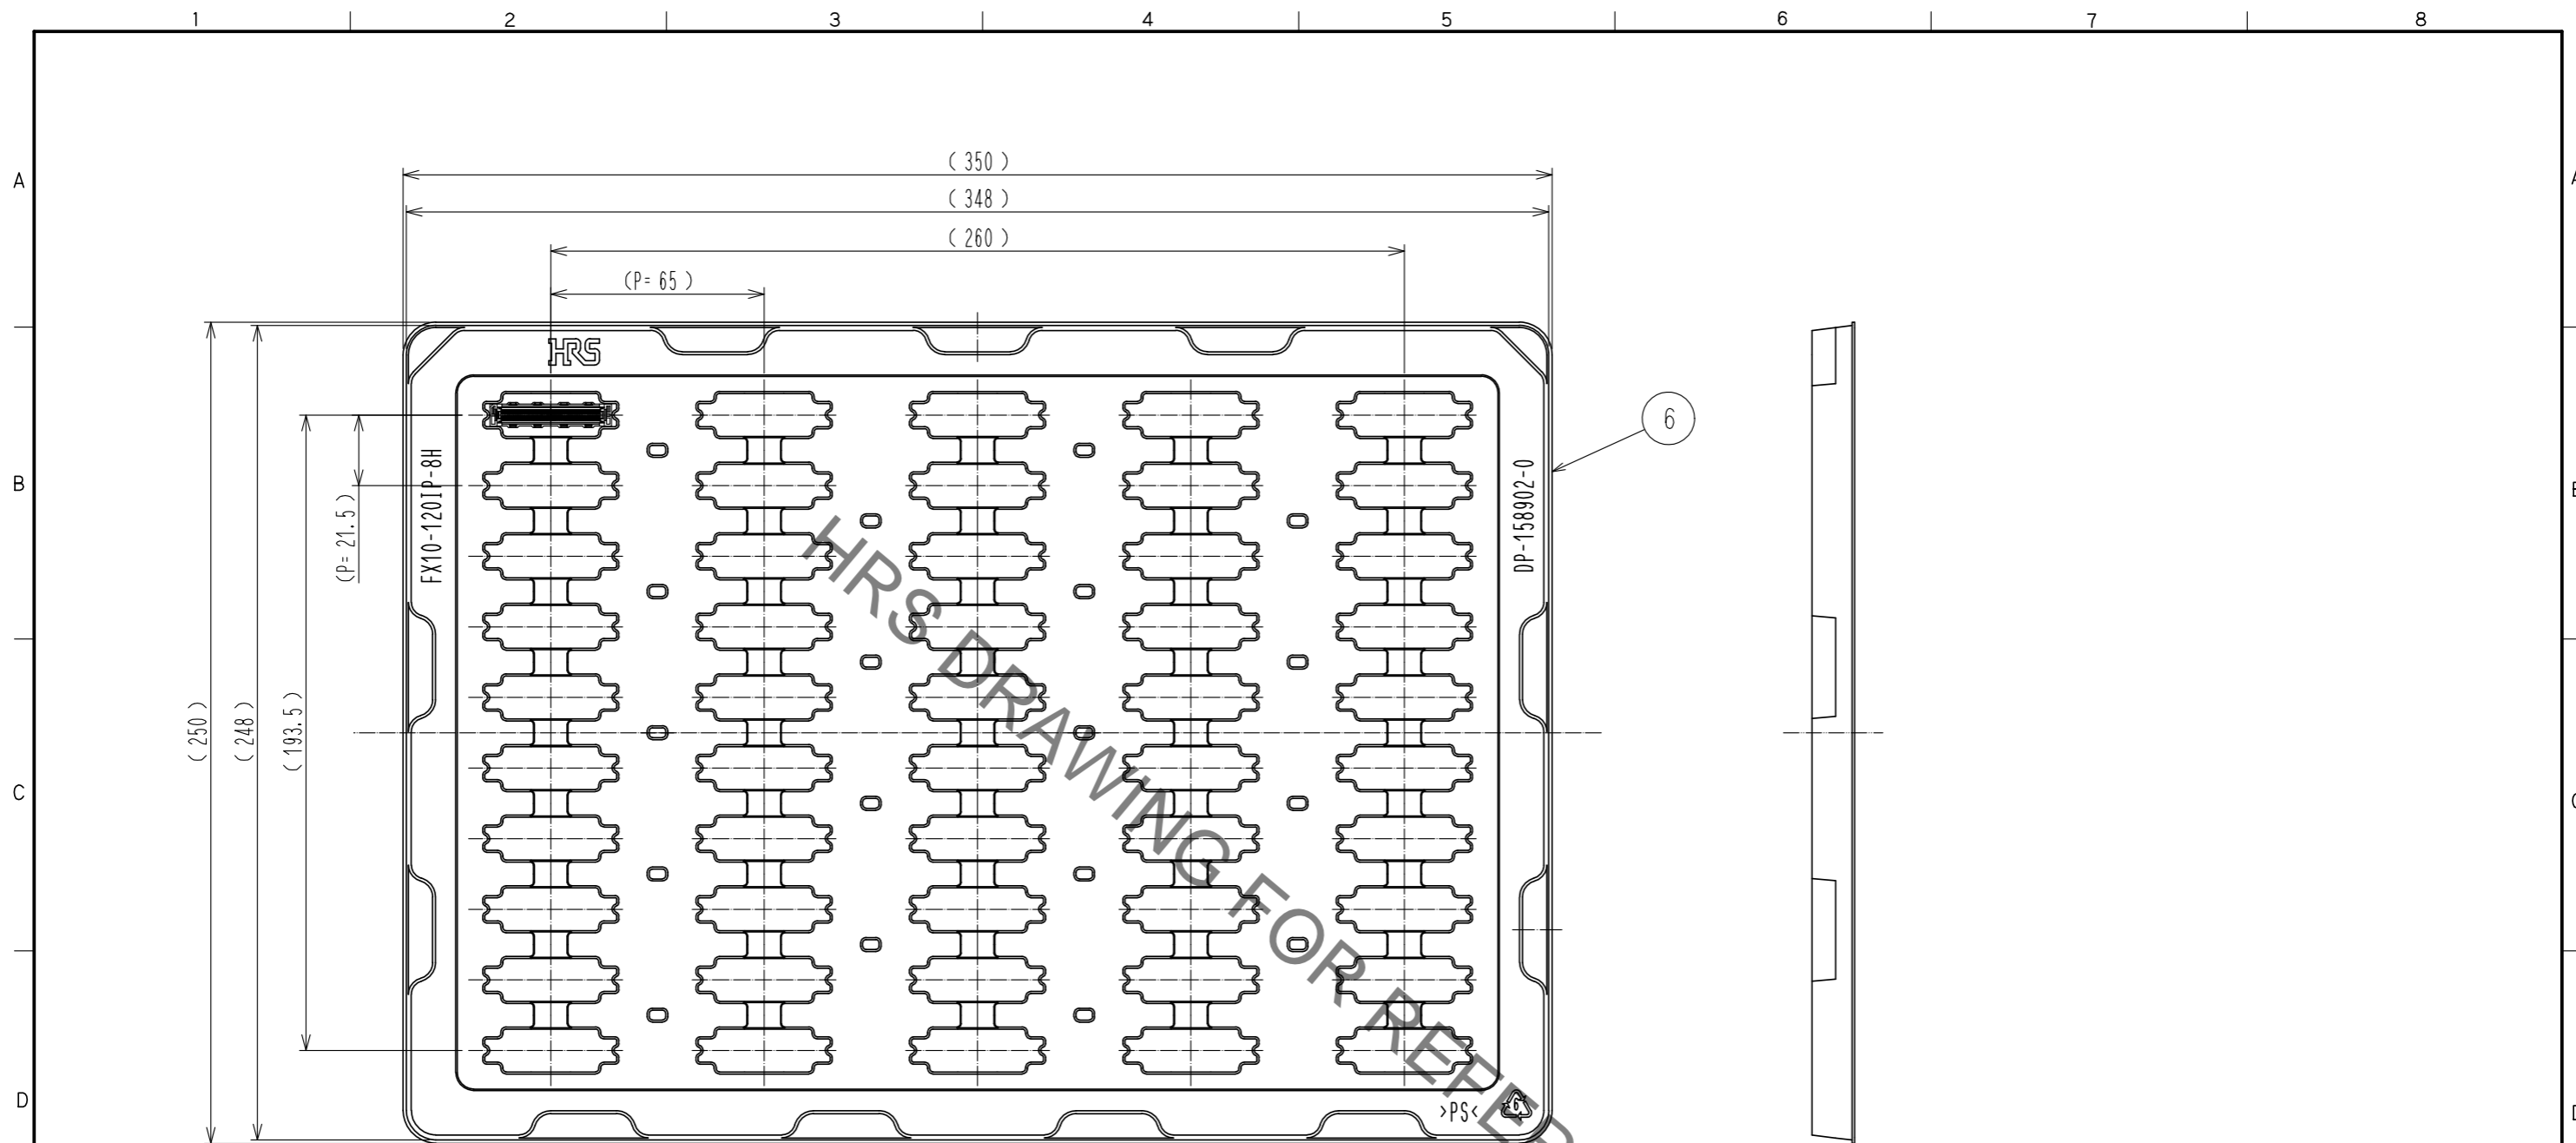

Fig.3 Drawing for packing (1:2)
- <6> 50pcs of this product are packed in soft tray. See Fig.3 for details.